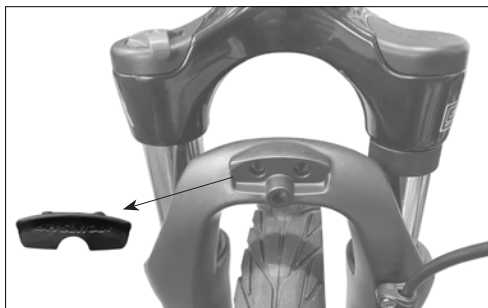

Fig. 12: Remove cover from front light mount area.
1. Remove the cover from the mount area on the arch of the suspension fork. The mounting screws are located on the back side. Turn them counterclockwise to loosen. Remove the screws and cover, and discard (Fig. 12).